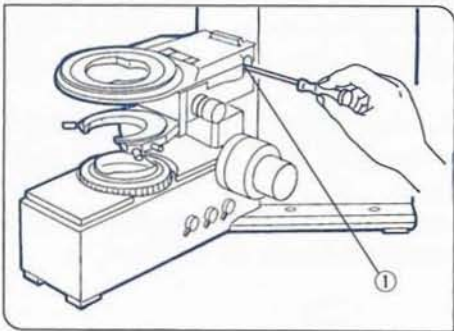

Fig. 30
### 4 Stage Height Adjustment (Figs. 30,31)
2. Loosen the stage bracket clamping screw ① and remove the stage bracket. (Fig. 30)